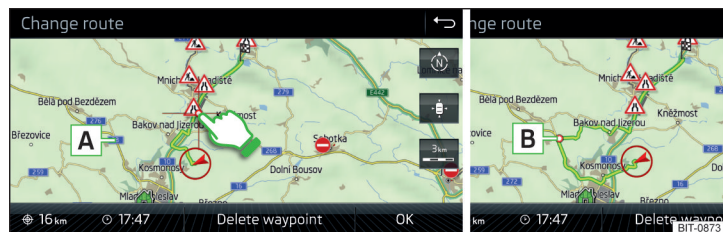

Fig. 231 Route change in the map / route transit point
- ▶ Touch the screen in the route field and move the cross-point to the desired location on the map, e.g. **A**, move » Fig. 231.
The transit point **B** is added to the route » Fig. 231.